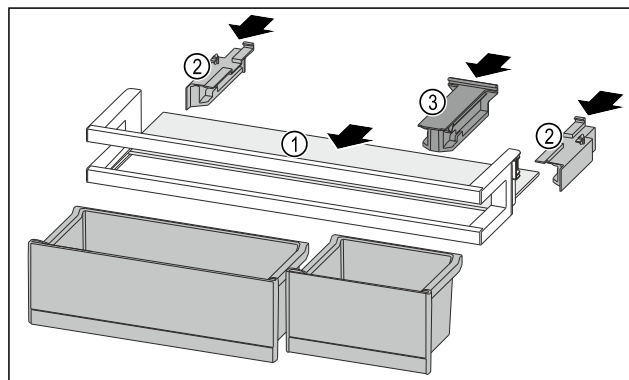

Fig. 149
- Push the shelf Fig. 149 (1) into the side recesses.
- Insert the side parts Fig. 149 (2).
- Insert the holding part Fig. 149 (3).